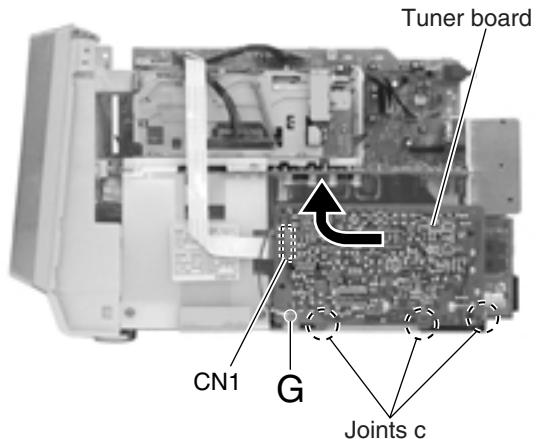

Fig.10
■ Removing the tuner board (See Fig.10)